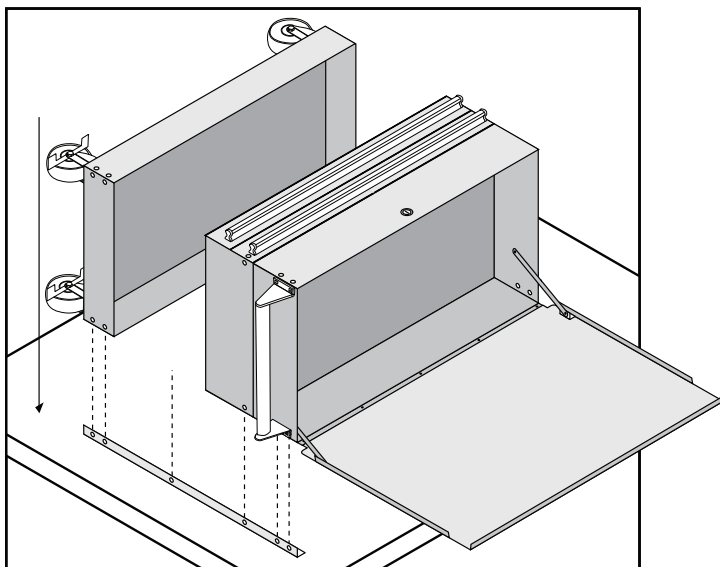

Figure 2
1. With the drawer assembly lid open, place two of the four legs face up on the table. See Figure 2